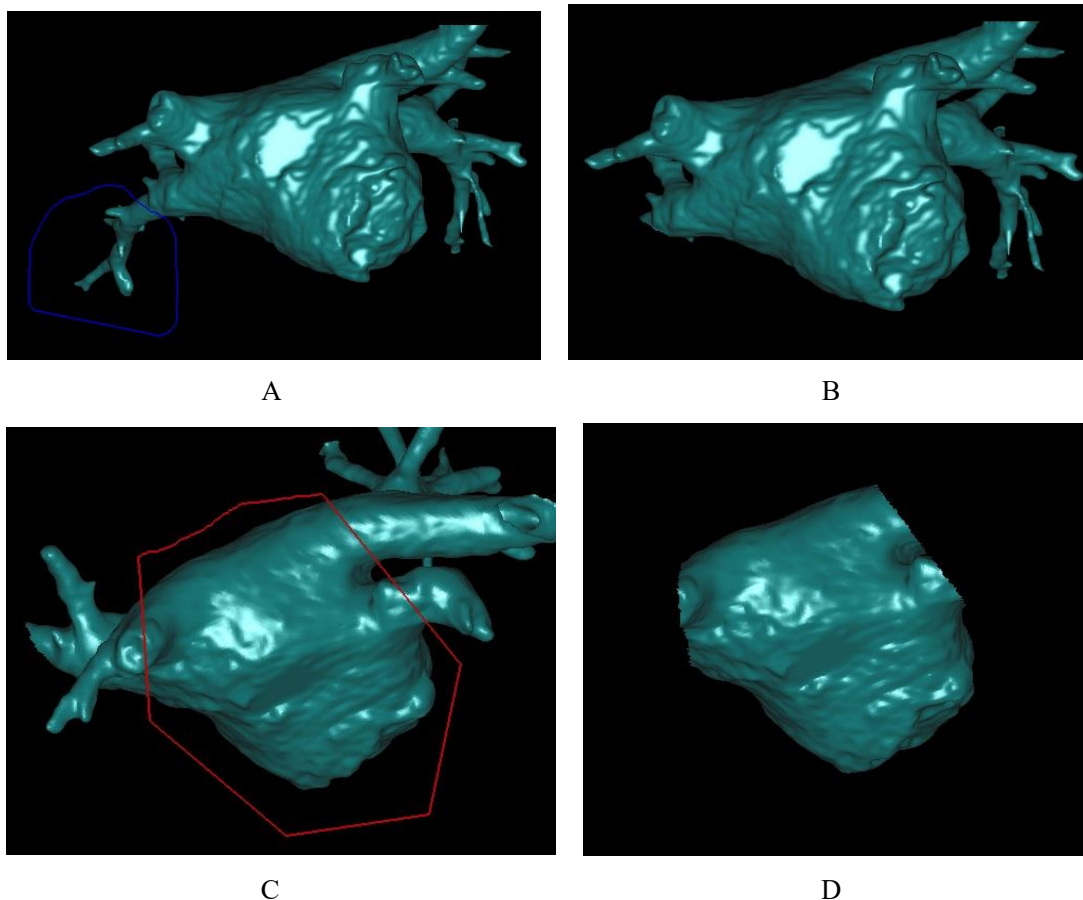

Figure 9-9 Clipping The Surface Image
- 2) Click on the "Select Background" icon () , the mouse has a brush function in the split window. You can draw a continuous curve or line segment around the detail of the surface image to be deleted by clicking the left mouse button, and double-click the mouse to form a closed contour (Figure 9-9 A). Click the Split icon () to cut the delineated part from the surface image (Figure 9-9 B).
- 3) Click the "Select Foreground" icon () , the mouse has a brush function in the split window. You can draw a continuous curve or line segment around the detail of the surface image to be deleted by clicking the left mouse button, and double-click the mouse to form a closed contour (Figure 9-9 C). Click the Split icon () to cut the portion outside of the delineated range from the surface image (Figure 9-9 D).